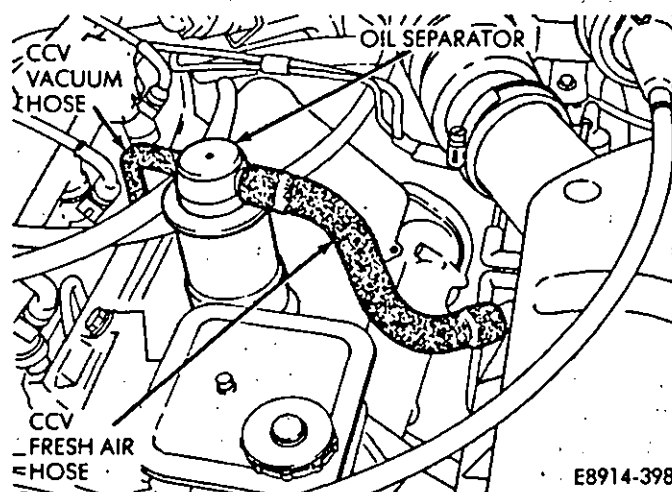

Fig. 26—CCV Hoses
(12) Inspect the CCV fresh air and vacuum hoses for signs of damage or fatigue. Ensure that they are connected securely (Fig. 26).
(13) Ensure that the Throttle Position Sensor (TPS) and Idle Speed Regulator electrical con-